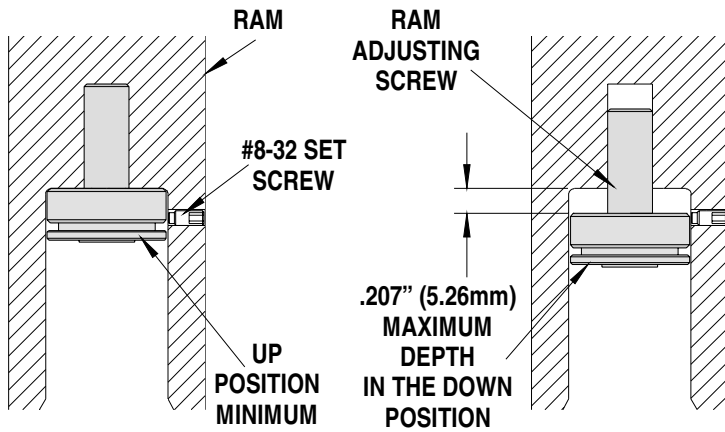

Figure 2-4
1. Loosen the #8-32 set screw in the Ram which locks the Ram Adjusting Screw into place. See Figure 2-4.